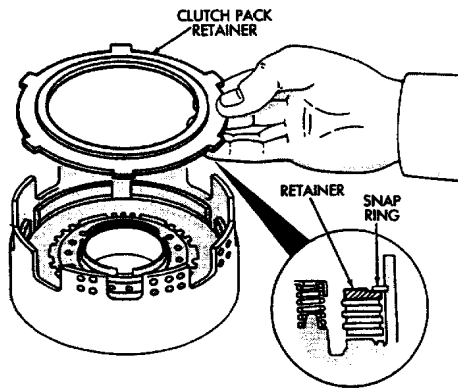

Fig. 12 Install Clutch Pack Retainer
(5) Install clutch pack retainer in drum (Fig. 12).
(6) Install clutch pack snap ring (Fig. 12).
(7) Check snap ring position. If necessary, shift snap ring until end gap is not aligned with any notches in clutch drum (Fig. 12).
(8) Check clutch piston stroke length a second time. If length is OK, continue with assembly. If stroke length is incorrect, replace clutch discs or use different thickness clutch pack retainer (Fig. 12). See Specifications section for retainer thicknesses.